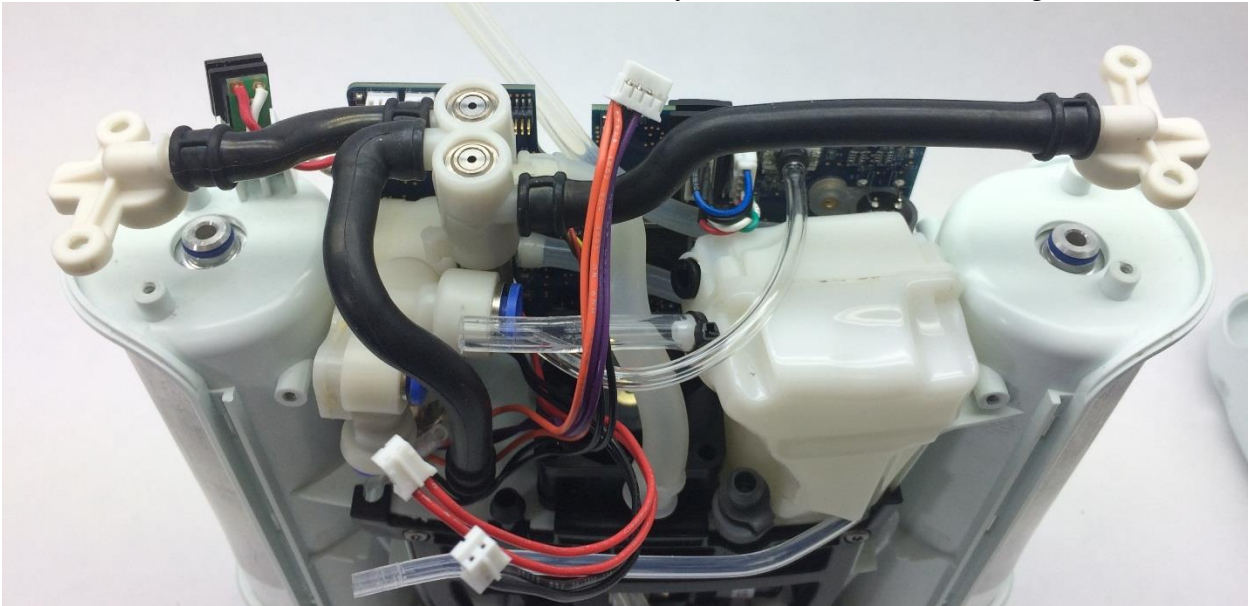

Figure 11: Manifold and tubing removal
5. Lift the Feed Waste Manifold out of the assembly with all tubes attached (Figure 11).